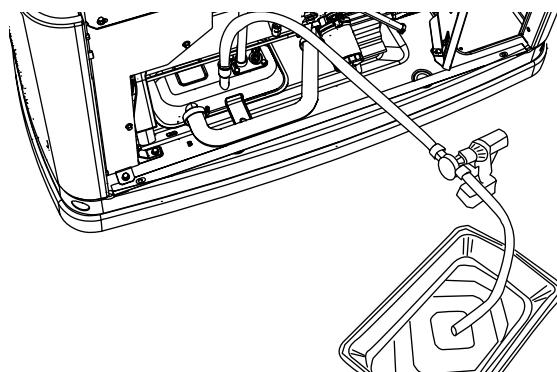

Figure 4-9. Draining Into Oil Catch Container
9. See **Figure 4-9**. Insert the $\frac{1}{2}$ in. hose free end in to a suitable oil catch container. Make sure there are no kinks or obstructions in either hose.